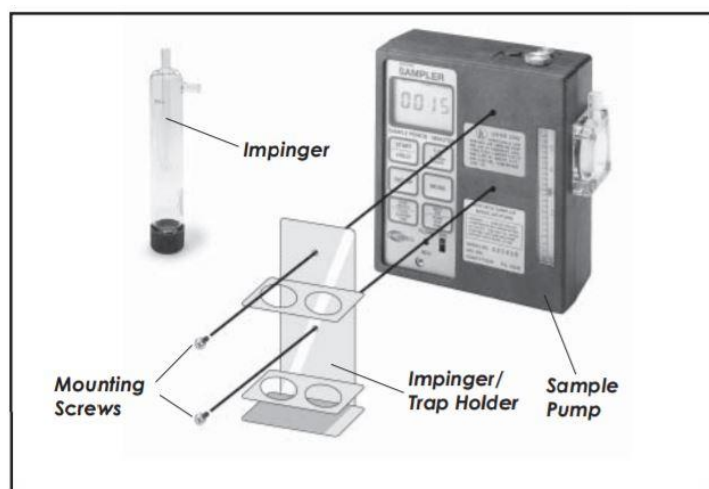
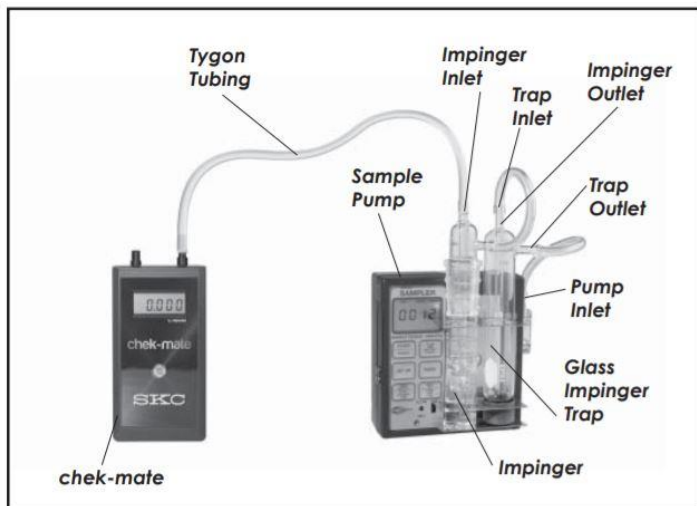

Figure 1. Attaching a glass impinger/trap holder to a sample pump
Figure 2. Glass impinger and glass trap in calibration train
2. Setting Up the Calibration Train — Figures 1 & 2
Allow the pump to equilibrate from one temperature extreme to another and to run for 5 minutes before calibrating. Attach the stainless steel holder to the pump (*Figure 1*) and place the impinger and trap in the holder. With flexible tubing, connect the outlet of the impinger to the inlet (top) of the trap and the outlet (side arm) of the trap to the inlet of the pump (*Figure 2*).
3. Calibrating the Flow Rate — Figure 2